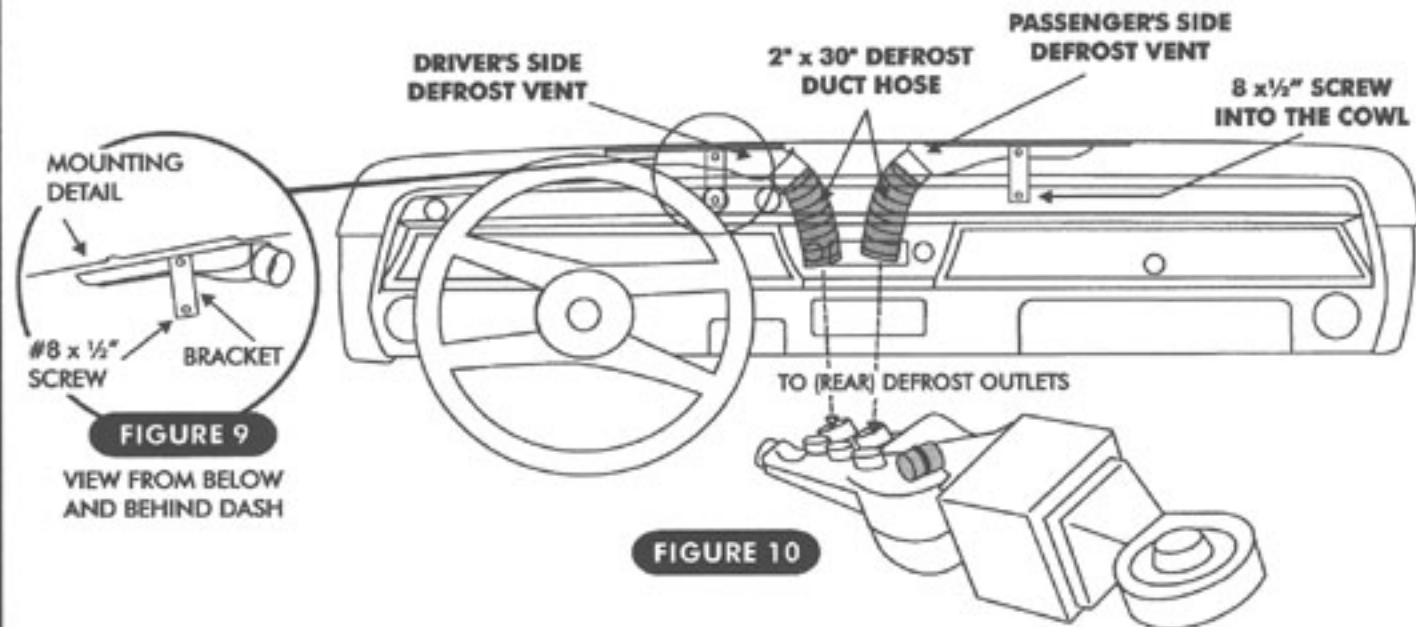

FIGURE 9
- LOCATE THE TWO (SUPPLIED) DEFROST VENTS. INSTALL BOTH DUCT HOSES ONTO THE DEFROST VENTS BEFORE ATTACHING VENTS TO DASH. CENTER THE DEFROST DUCTS UNDER THE DEFROST OUTLET GRILLE OF THE DASH. ATTACH EACH DEFROST DUCT WITH ONE #8 x 1/2" SCREW (SEE FIGURE 9) INTO THE COWL.